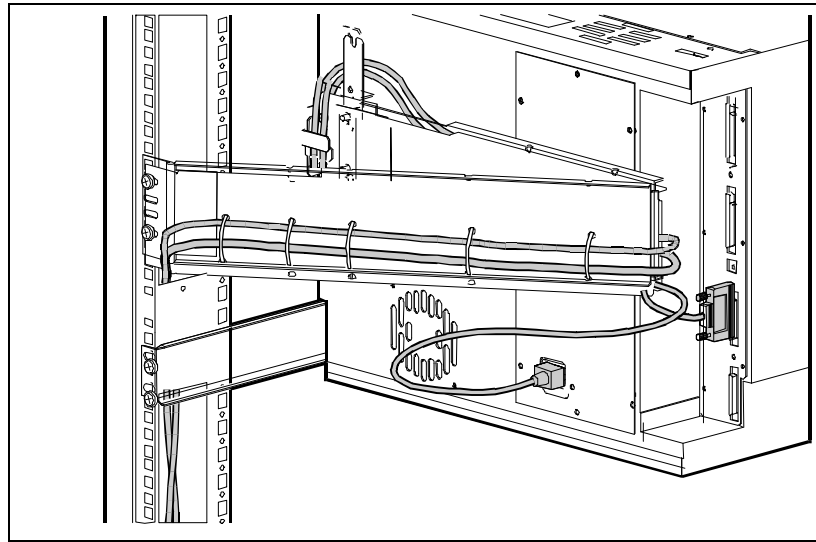

Figure 2: Rear view of the DLT Library with the cable management arm in place.
- Customized cable management arm, shown in Figure 2, to accommodate the 29-inch depth of the library, minimizes interference of cables with the back of the cabinet and prevents damage, crimping or disconnection of the cables.